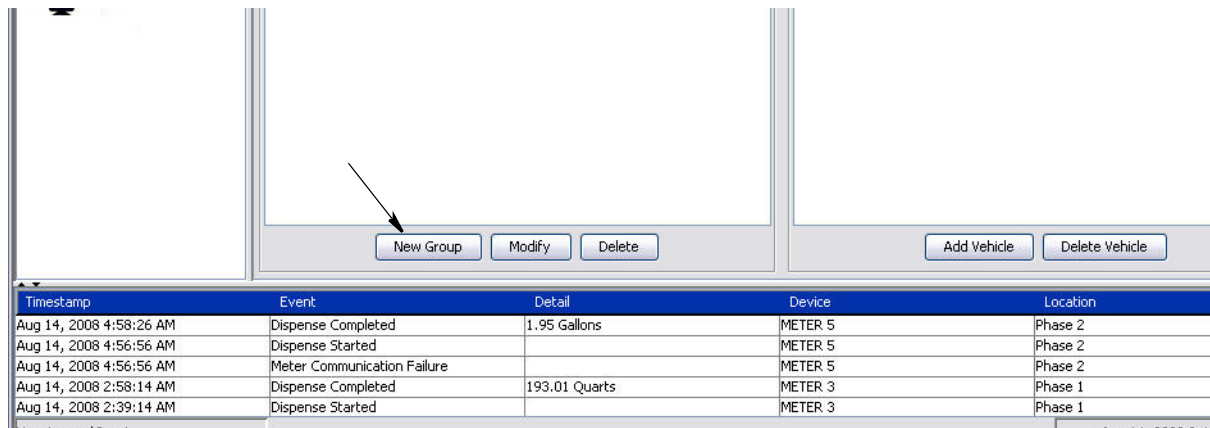

FIG. 164
2. To create a new Vehicle Group, click the New Group button (FIG. 164).